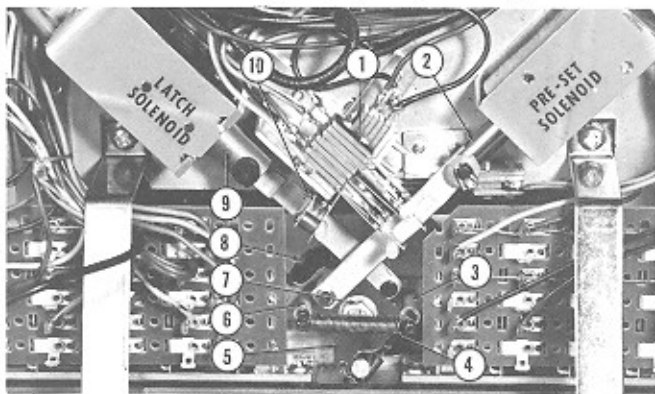
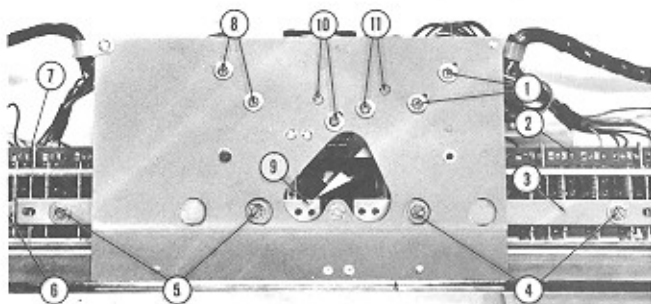
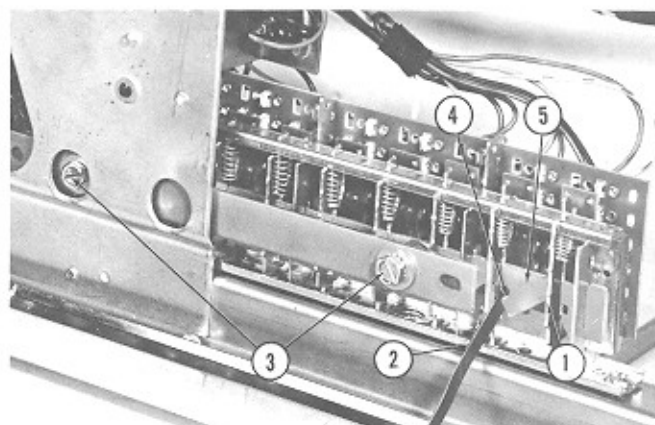
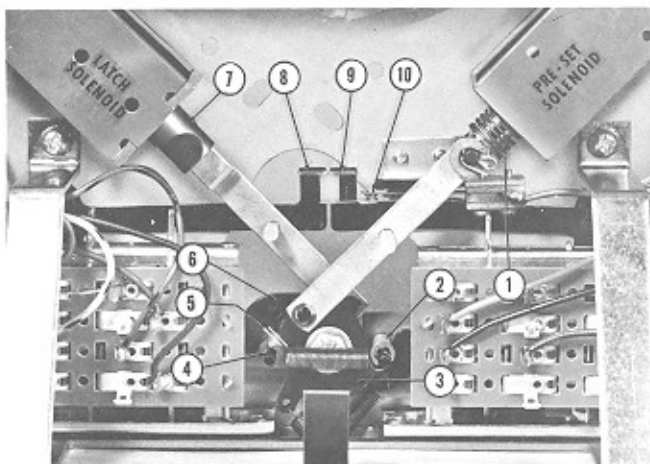

FIG. 13. SELECTOR SWITCH ADJUSTMENT
FIG. 14. SELECTOR SWITCH ADJUSTMENT
FIG. 15. SELECTOR SWITCH ADJUSTMENT
FIG. 16. SELECTOR SWITCH ADJUSTMENT
The Stop Nut (Fig. 13, Item 7) should be adjusted to provide free movement of the two Cam and Hub Assemblies; Pre-Set (Fig. 13, Item 5) and the Cam and Hub Assembly, Latch (Item 8). This may be accomplished by first removing the spring (Item 4) which is over the Stop Nut (Item 7) then turn the Stop Nut down until the Cam and Hub Assemblies are jammed. Back the Stop Nut off one quarter turn and check the pivot action by manually operating the Pre-Set Solenoid Plunger (Fig. 13, Item 2).
Figure 14 shows the underside of the selector switch assembly with two Link and Pin Assemblies (Items 3 and 9) which actuate the latch bars. The adjustment procedure is the same on either the 200 or 100 selection switch assembly for either the Letter Latch or the Number Latch Bar.
(1) To adjust the Letter Latch Bar (Fig. 15, Item 5). Loosen the two Adjusting Screws (Item 3). Insert a .005" Thickness Gauge between a Selector Push Rod and the Tip of the Latch on the Letter Latch Bar as shown in (Fig. 15, Item 4). Tighten the Adjusting Screws (Item 3).
(2) The Number Latch Bar (Fig. 14, Item 6) may be adjusted by loosening the two Screws (Fig. 14, Item 5). Insert a .005" Thickness Gauge between a Number Push Rod and the Tip of the Latch on the Number Latch Bar as shown for the Letter Latch Adjustment in (Fig. 15, Item 4). After correct adjustment, tighten the Adjusting Screws (Fig. 14, Item 5).
(3) When both Latch Bars have been correctly adjusted, manually actuate the Pre-Set Solenoid Plunger (Fig. 13, Item 2) and check each selector switch for proper latching and release by depressing the A Key, then the B Key, etc. As the B Key is depressed, it should release A, and so on down the entire series of selector keys. The last letter key and the number key depressed should remain latched. Should any switch fail to latch or release, that Latch Bar should be reset using the particular Letter or Number switch as the adjustment reference, and being sure that .005" clearance is maintained between the Latch Bar and Push Rod.
Loosen the two mounting Screws (Fig. 14, Item 8) and manually actuate the Plunger (Fig. 16, Item 1) to position the Cam and Hub Assembly (Fig. 16, Item 3). The letter latch Link and Pin Assembly (Fig. 16, Item 4) must have a minimum of clearance as shown between the Pin (Item 4) and the lobe on the Cam (Item 3) as shown at Item 5. The Pre-Set Solenoid should be located so that the plunger strikes bottom. Maintain the correct alignment to prevent any bind. Tighten the two mounting Screws (Fig. 14, Item 8) and check for proper mechanical operation.
To adjust the Latch Solenoid, loosen the two mounting screws (Fig. 14, Item 1). Manually actuate the Pre-Set Solenoid Plunger (Fig. 16, Item 1) and depress one letter key and one number key. Both should remain latched. Manually actuate the Latch Solenoid Plunger (Fig. 16, Item 7) then release the Pre-Set Solenoid Plunger (Item 1). The Cam and Hub Assembly, Latch (Fig. 16, Item 6) should engage the two Pins (Items 2 and 4) holding the Number and Letter Latch Bars firmly with no lost motion. Maintain this position and set the Latch Solenoid to bottom against the plunger and tighten the Mounting Screws (Fig. 14, Item 1).
The Control Switch Assembly (Fig. 13, Item 1) should be adjusted so the normally open contacts close during the last 1/16" of travel of pre-set solenoid Plunger (Item 2). This is accomplished by loosening the adjusting Screws (Fig. 14, Item 11). Position the Control Switch (Fig. 13, Item 1) so that the normally open contacts close 1/16" before the solenoid Plunger (Item 2) hits bottom of the Pre-Set Solenoid. Tighten the Adjusting Screws (Fig. 14, Item 11). Manually operate the Pre-Set Solenoid Plunger and check the operation of the switch for correct adjustment.
Note: Contacts 4 and 5 (Fig. 13, Item 1) of the control switch should be open when the pre-set solenoid is energized. This places a protective resistor of 125 ohms in series with this solenoid to prevent damage if the key board is left with a credit on for a great period of time.
The Latch Switch Adjustment (Fig. 13, Item 10) has two normally open contacts which should have a gap of 1/32" and close with 1/32" overtravel. The switch mounting bracket is adjustable by loosening the two Mounting Screws (Fig. 14, Item 10). The contacts should be set to close on the last 1/16" to 1/8" of plunger travel. To actuate the latch switch it will be necessary to manually actuate the Pre-Set Solenoid Plunger (Fig. 13, Item 2) and while maintaining this condition, manually actuate the Latch Solenoid Plunger (Item 9).
The Anti-Cheat Switch Assembly has a pair of normally open contacts (Fig. 16, Item 10) which are controlled by the Lever and Pin Assembly (Fig. 16, Items 8 and 9). To adjust, manually operate the Pre-Set Solenoid Plunger (Fig. 16, Item 1). After the Plunger has bottomed in the Solenoid the Anti-Cheat switch should be closed with